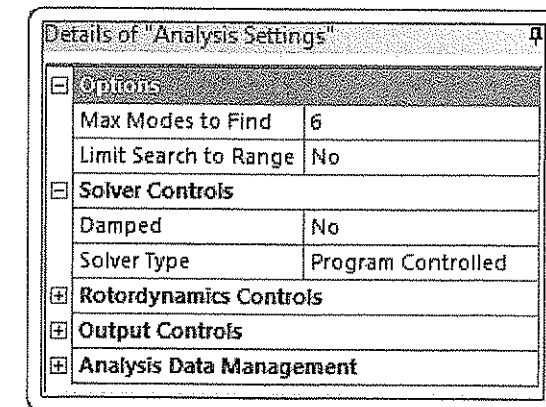

Figure 10-17 The Details of "Analysis Settings" window
3. Enter **6** in the **Max Modes to Find** edit box, if not already specified by default. Also make sure that **No** is selected in the **Limit Search to Range** drop-down list, refer to Figure 10-17.